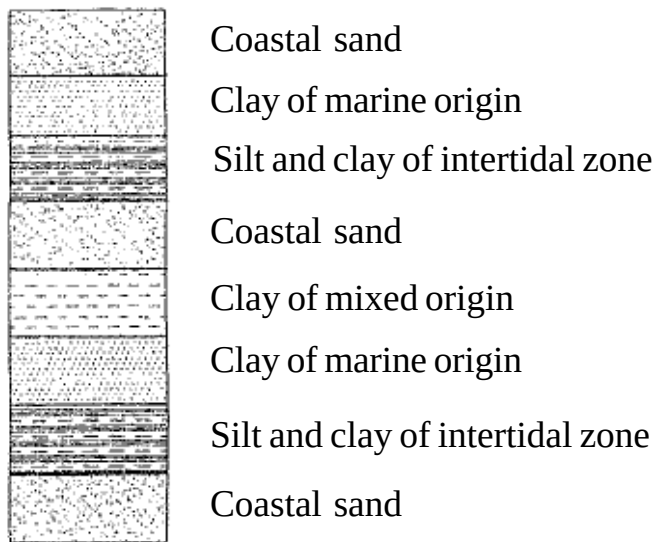

Figure : 0.1
6. a) Following sedimentary sequence is encountered. (F During preliminary investigations (Figure : 0.1). Reconstruct the chronology of events based on emergence and submergence of coast. Discuss in brief the geological conditions promoting the regression and transgression of sediments. 10